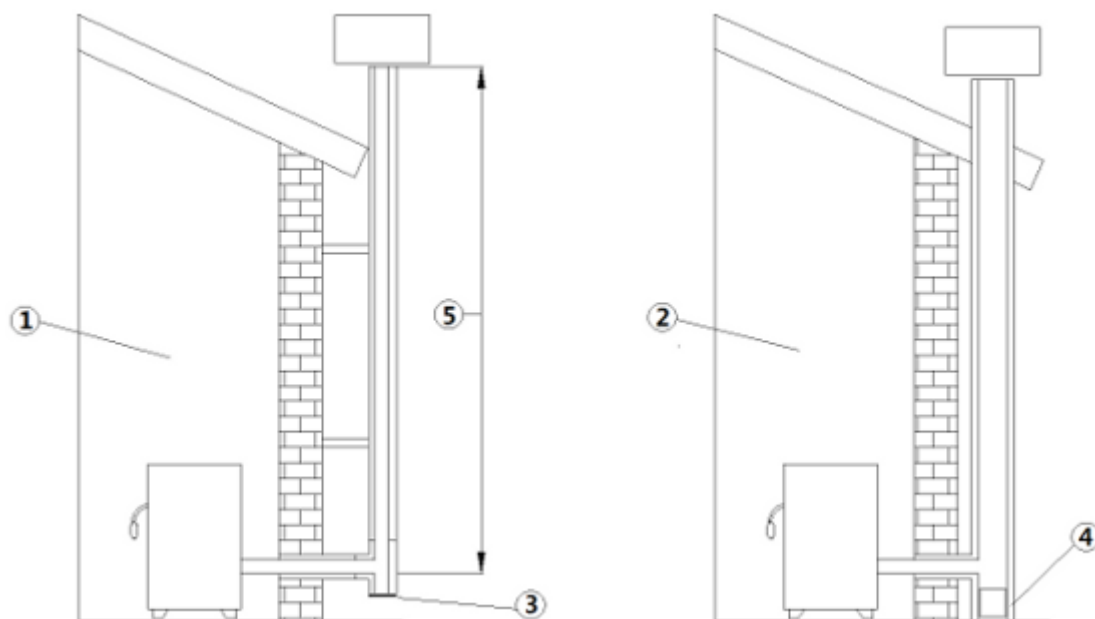

Fig. 1 - Chimney Flues
LEGEND Fig. 1 page 7
- The chimney flue must be sole (see **Fig. 1 page 7**) with insulated stainless-steel pipes (1) or installed on the existing chimney flue (2).
- Both this solutions must be endowed with an inspection plug (3) and/or an inspection door (4).